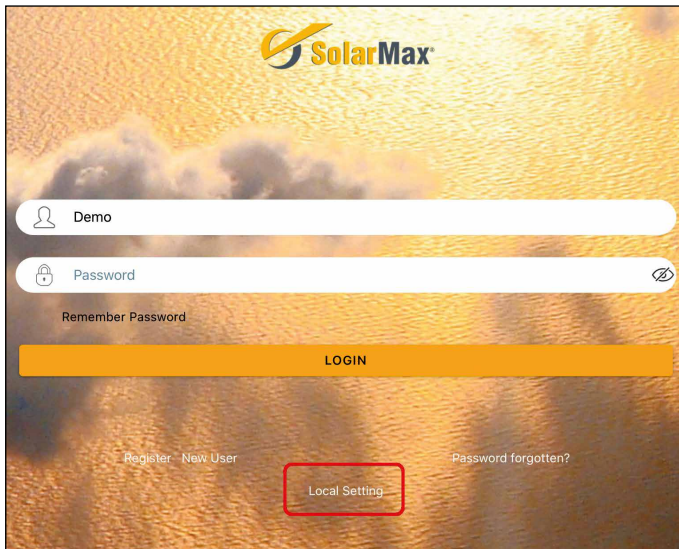

Fig. 24: Start menu at the mobile device for inverter configuration
2. After the connection between the mobile device and the access point of the inverter, start the App MaxLink. Select "Local Setting" (see Fig. 24). , start the App MaxLink. A list of a inverters available for communication is shown